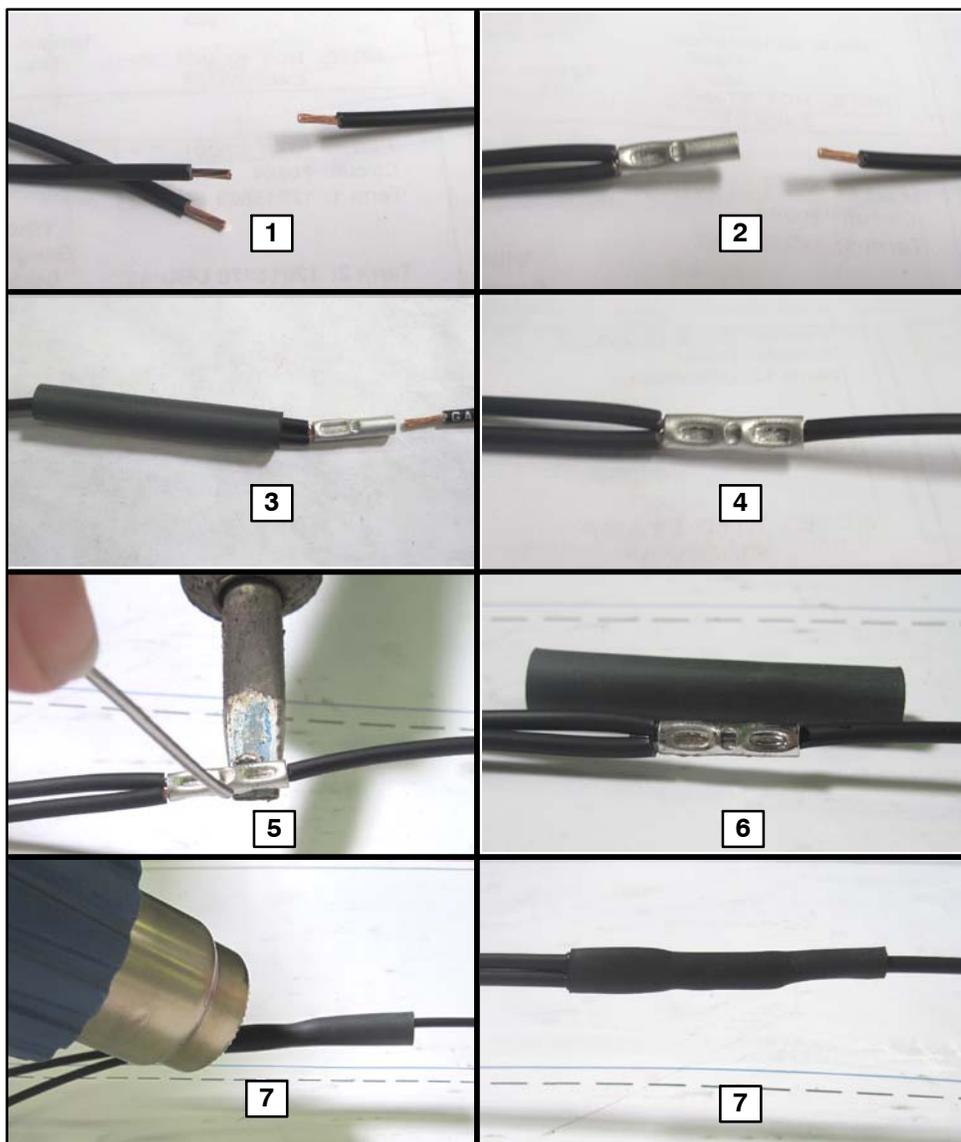

Figure 7.
10. Locate circuits A1, RA1 and LA1C in connector S102 cavities E, D and F. Using wire cutters, cut the wires 0.50 inch from the connector and splice them together using heat shrink, p/n 07-08-4684 (see Figure 7).
11. Locate circuits W1, RW1 and LW1C in connector S102 cavities L, K and M. Using wire cutters, cut the wires 0.50 inch from the connector and splice together using heat shrink, p/n 07-08-4684. (refer to Figure 7).
12. Using a small removal tool, remove circuit LW2A from connector S102 cavity J and splice with circuit LW2A from the Interior Light Relay Kit, p/n 07-08-4682B using heat shrink, p/n 07-08-4685 (refer to Figure 7).
13. Remove circuit RW2 from connector S102 cavity G and splice with circuit RW2 from the Interior Light Relay Kit, p/n 07-08-4682B, using heat shrink p/n 07-08-4685 (refer to Figure 7).
14. Remove circuit LA3A from connector S102 cavity C and splice with circuit LA3A from the Interior Light Relay Kit, p/n 07-08-4682B, using heat shrink p/n 07-08-4685 (refer to Figure 7).
15. Remove circuit RA3A from connector S102 cavity A and splice with circuit RA3A from the Interior Light Relay Kit, p/n 07-08-4682B, using heat shrink p/n 07-08-4685 (refer to Figure 7).